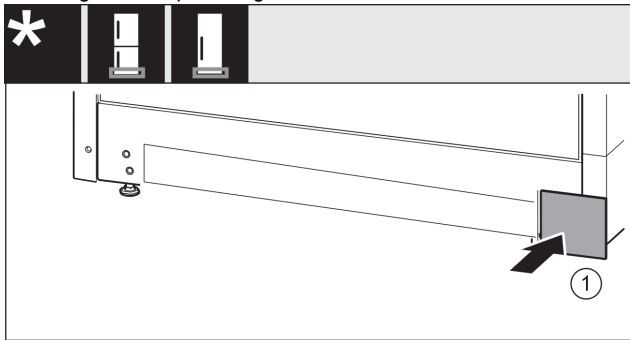

Fig. 38
- ▶ Re-attach the cover *Fig. 38 (1)* to the other side.